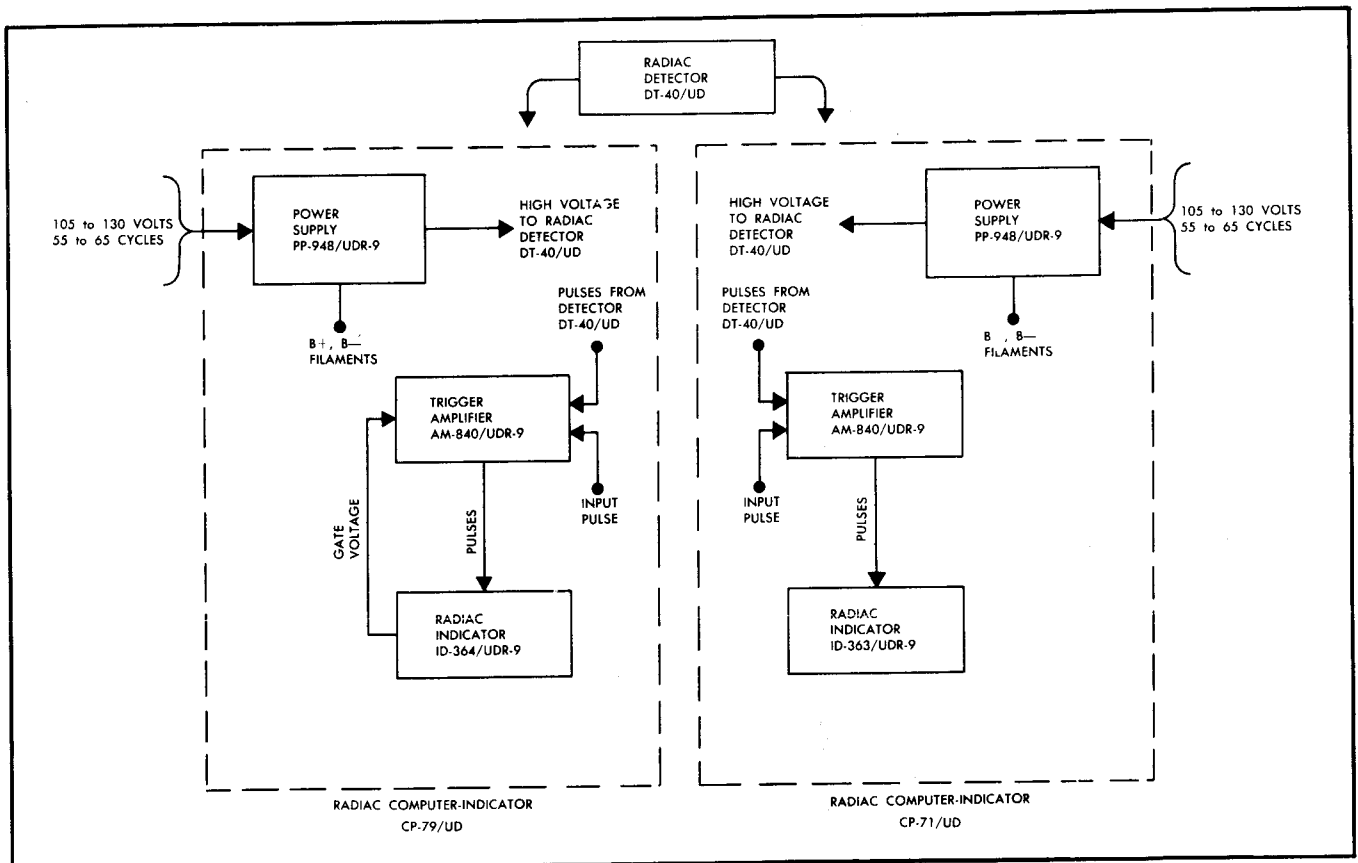
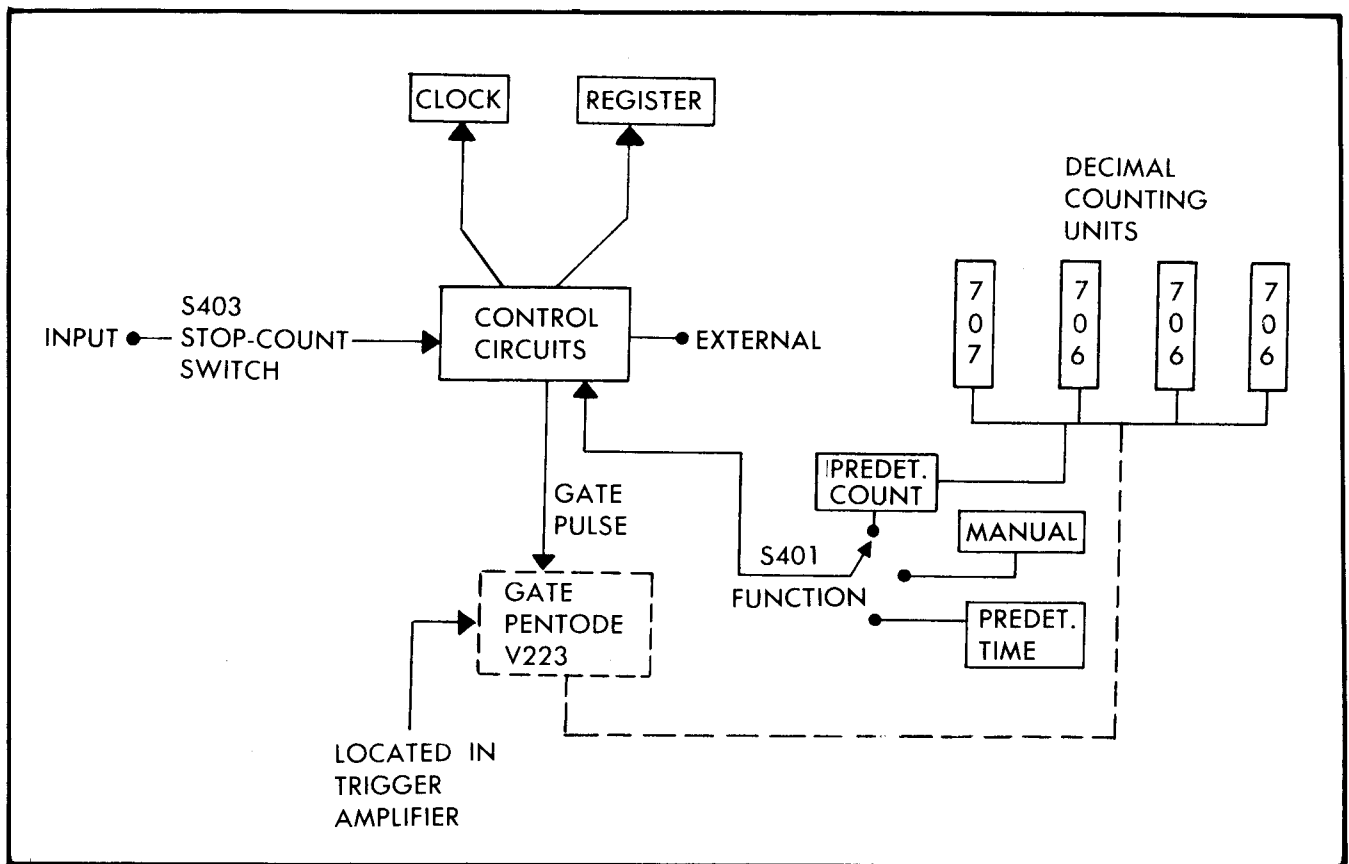

Figure 2-1. Radiac Set AN/UDR-9, Simplified Block Diagram
Figure 2-4. Radiac Indicator ID-364/UDR-9, Simplified Block Diagram
Figure 2-1 is an overall simplified block diagram of Radiac Set AN/UDR-9. Additional block diagrams are shown in Figures 2-4, 2-5, and 7-10. When exposed to nuclear radiation, electrical impulses are produced in the associated radiac detector. These impulses are coupled to the AM-840/UDR-9 Trigger Amplifiers in the CP-71/UD and/or CP-79/UD Radiac Computer-Indicators. In the CP-71/UD, the principal task is to provide (by means of Radiac Indicator ID-363/UDR-9) a calibrated meter reading of the average rate of arrival of the input pulses. In the CP-79/UD, pulses are coupled to Radiac Indicator ID-364/UDR-9, whose purpose is to indicate the number of counts for a given time interval or to indicate the elapsed time for a predetermined number of counts. Trigger Amplifier AM-840/UDR-9 has two functions: (1) to supply amplified uniform pulses to the ID-363/UDR-9 and ID-364/UDR-9, and (2) to provide an accurate time base for calibration of the ID-363/UDR-9, and for drive and predetermined timing signals in the ID-364/UDR-9. The time base
(1) General. A simplified block diagram is shown in Figure 2-4. The theory of operation of Radiac Indicator ID-364/UDR-9 involves three functions, each controlled from the front panel. These functions are: (1) MANUAL, (2) PREDETERMINED COUNT, and (3) PREDETERMINED TIME. During MANUAL operation, counting is controlled by means of the RESET-STOP-COUNT switch on the front panel. During PREDETERMINED COUNT operation, stopping is accomplished automatically. The operator selects the number of counts desired, turns RESET-STOP-COUNT switch to COUNT, and after this number has been accepted the counting ceases. The time required for the count is then shown on the clock. In the PREDETERMINED TIME operation three positions are provided: TIME, INTERNAL, and EXTERNAL. In the TIMER position, an external timer must be used. The timer is set to the time interval desired, counting started by RESET-STOP-COUNT switch and at the end of the interval counting is automatically stopped and the number of counts indicated on the register and lamp panel. In the INTERNAL position counting is both started and stopped by timing pulses from the crystal controlled time base in Trigger Amplifier AM-840 UDR-9. The clock then indicates the time required for the count indicated on the lamp panel and register. The EXTERNAL position is similar to the INTERNAL position except that timing pulses are supplied from an external source.
(2) Detailed Analysis.